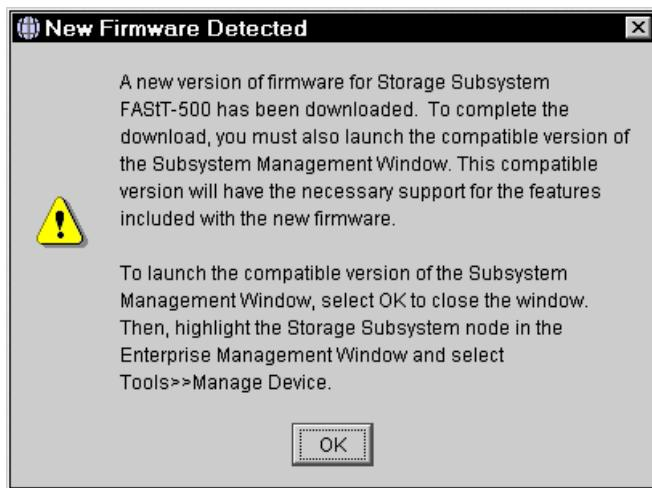

Figure 7-11 New Firmware Detected
- When the download is finished, you receive a message (Figure 7-11) telling you that new firmware has been detected and that you should relaunch the Subsystem Management window.